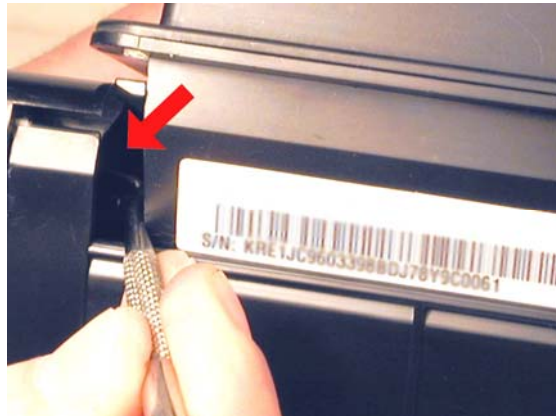

Figure 10
8) With a spring hook, remove the 2 springs from the back of the toner hopper. One on the left and one on the right side, about 1 inch from the back edge. See **Fig. 10**